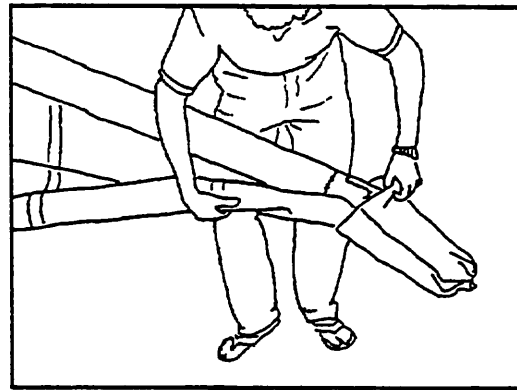

Figure 76
- 3) Before you de-tension the crossbar, remove the plastic wing tips, the number one battens, the washout tips (if so equipped), and remove the first three (outboard most) cambered battens on each side. Roll up the sail at the wingtip and slide on the wingtip cover bag. Place the plastic wingtip fairings in the wingtip cover bags and secure the velcro tab on the bag. (Figure 76)